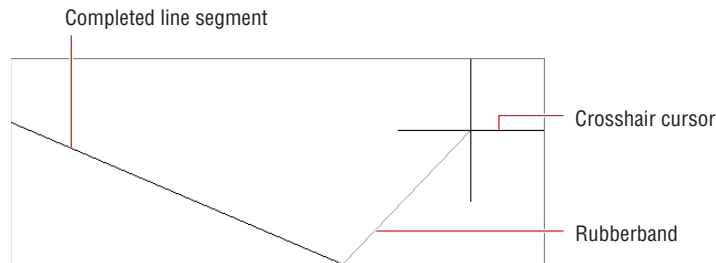

FIGURE 2.8 Drawing a line
3. Type **L**, and press Enter. Click two arbitrary points to define a line object. Observe the flexible segment (called a *rubberband*) connecting the cursor with the second point you clicked (see Figure 2.8).